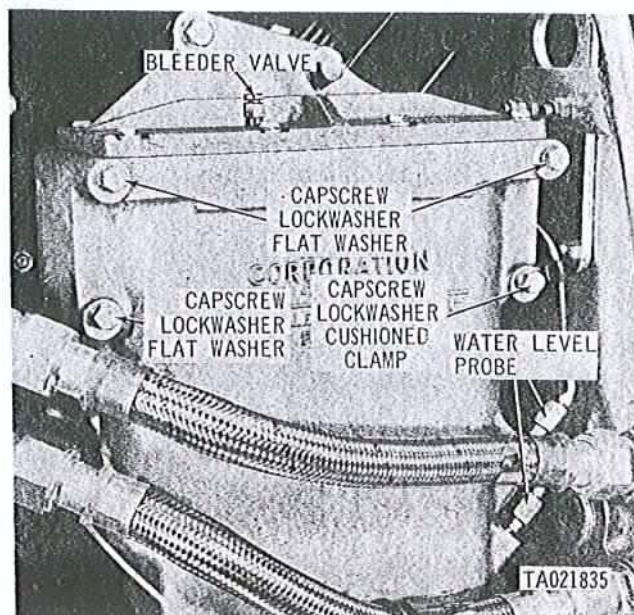

Figure 2-122. Removing or installing water level probes.
(1) Open drain cock (fig. 2-62) and bleeder valve (fig. 2-122) and drain fuel into a suitable container.
(2) Loosen but do not remove two lower capscrews and two upper capscrews and pull fuel/water separator away from mounting bracket. Remove one capscrew, lockwasher and cushioned clamp and remove two water level probes from the filter.
(2) Install nipple (13) in solenoid "IN" opening and elbow (14) in "OUT" opening. Install the solenoid valve on mounting bracket and secure with two assembled washer bolts (12). Install solenoid valve drain tube (11) and connect wiring harness lead (10) and filter drain hose (8). Connect wiring harness electrical lead (2) and install new tie-wrap (1).
(3) Install two water level probes (fig. 2-122) making sure that the upper probe, identified by red
(4) Close drain cock (fig. 2-62). Purge fuel system and close bleeder valve (fig. 2-122).